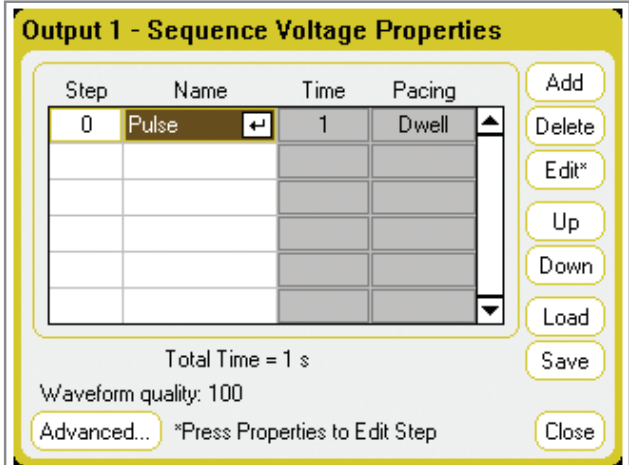

Figure 4a Table showing sequence steps
2. From the N6705A front panel, press the **Arb** button twice to view the Output 1 – Arb Selection window, navigate to the button titled Sequence and press **Enter** to select the sequence output type. Now press **Properties** and you will see the Sequence entry window, as shown in Figure 4a.